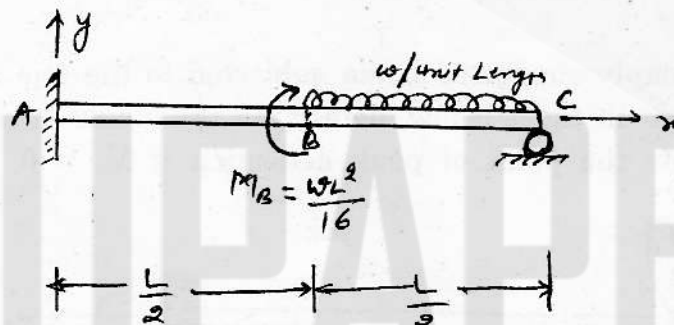

Fig. 3
- 2 The beam of flexural rigidity EI in fig. 3 below is clamped at end A, supported at C, and loaded by the couple at B, together with the load uniformly distributed over the region BC. Determine all reactions and draw B.M.D.